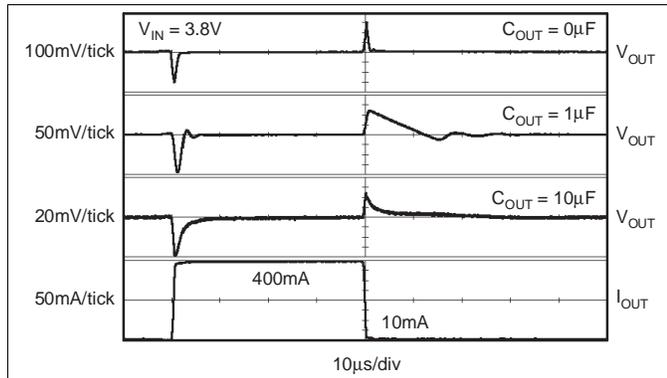

Figure 19. TPS73633 Load Transient Response
The enable pin (EN) is active high and is compatible with standard TTL-CMOS levels.  $V_{EN}$  below 0.5 V (max) turns the regulator off and drops the GND pin current to approximately 10 nA. When EN is used to shutdown the regulator, all charge is removed from the pass transistor gate, and the output ramps back up to a regulated  $V_{OUT}$  (see Figure 19).